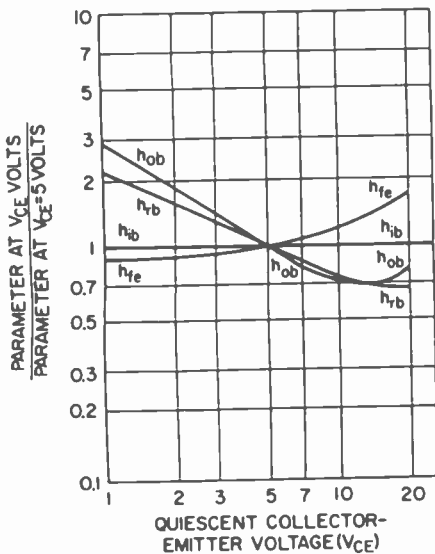

FIG. 6—H-PARAMETER VARIATIONS as collector-to-emitter voltage changes.
2. From Fig. 6, the ratio of the actual  $h_{ie}$  at 10 volts to the  $h_{ie}$  at 5 volts is 0.7. Multiply this by the solution found in step 1 and the required  $h_{ie}$  is  $0.7 \times (5 \times 10^{-4}) = 3.5 \times 10^{-4}$ .